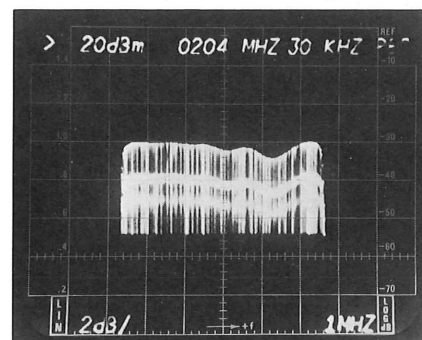

Figure 6-2. Swept heterodyne processor response.
10. Once the sweep generator level has been established, the spectrum analyzer can be switched to high persistence, and by manually rocking the generator frequency about the picture frequency, a picture of the exact response will be stored in the display as in figure 6-2.